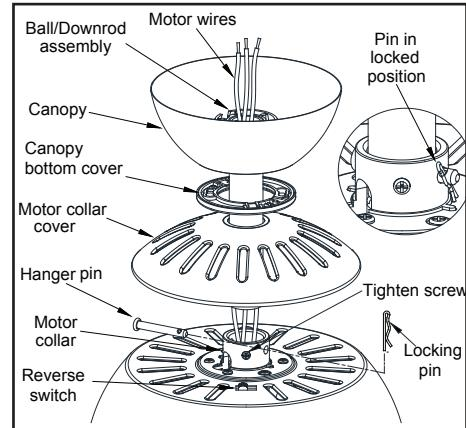

Figure 7
4. Route the wires exiting the top of the fan motor through the decorative motor collar cover then the center of the canopy bottom cover. Make sure the slot opening are on top. Route the wires through the canopy and then through the ball/downrod assembly. (Figure 7)
6. Align the holes at the bottom of the downrod with the holes in the collar on top of the motor housing. (Figure 7) Carefully insert the hanger pin through the holes in the collar and downrod. Be careful not to jam the hanger pin against the wiring inside the downrod. Insert the locking pin through the hole near the end of the bolt until it snaps into its locked position, as noted in the circle inset of Figure 7.
The fan shipped from the factory with the reversing switch positioned to circulate air downward. If airflow is desired in the opposite direction, turn your fan off and wait for the blades to stop turning, then slide the reversing switch (located at the top of the motor housing, refer to figure 7 on page 4) to opposite position, and turn fan on again. The fan blades will turn in the opposite direction and reverse airflow.